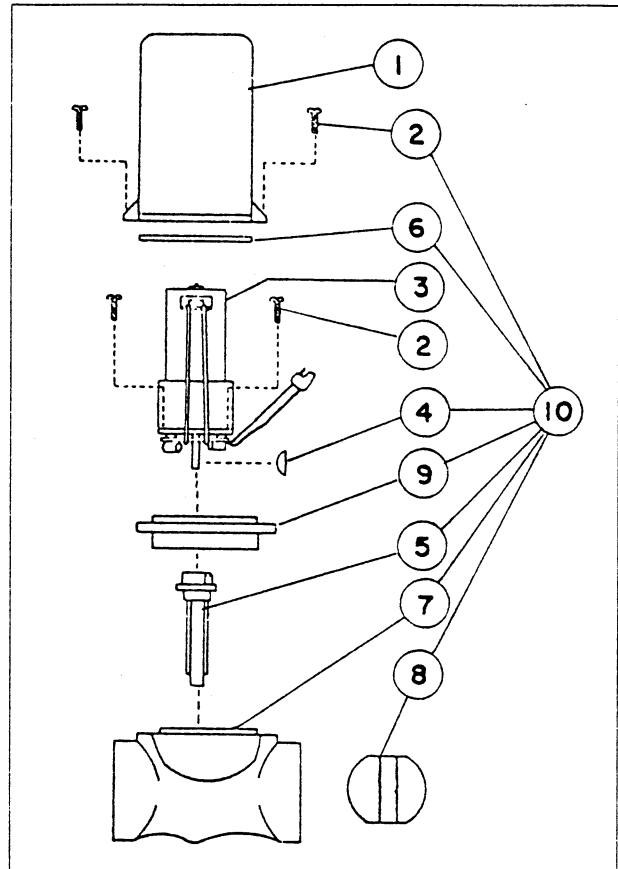

FIG. 11
When reassembling the valve, grease both sealing surfaces of the coupler shaft. Insert the coupler shaft into the iso-flange (9) and be sure seal properly seats on the shaft. Install on valve body and apply RTV 738 or equivalent to the mounting holes. Reassemble remaining items as shown in the parts diagram, FIG. 11.